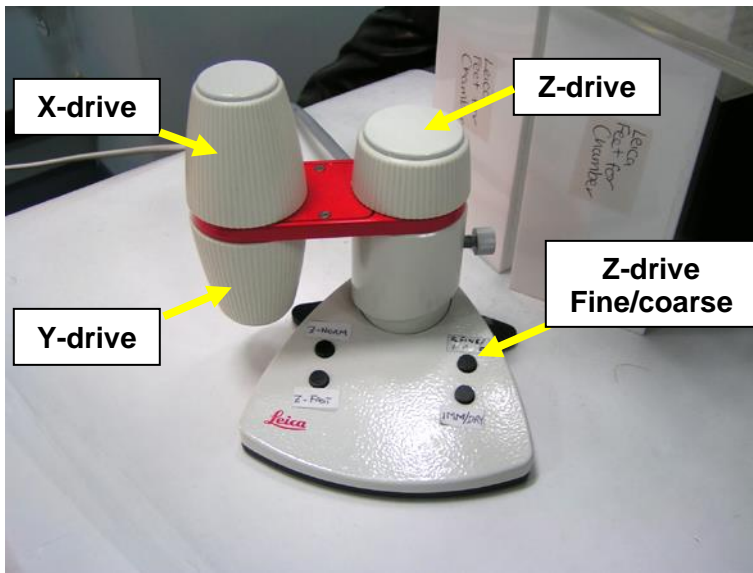
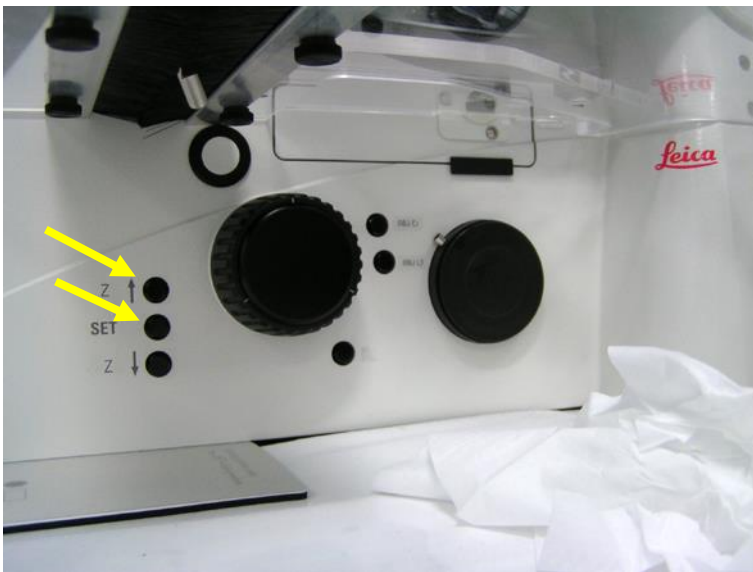

Fig. 8
Fig. 9
2.9. To focus on your sample, you can use the two main knobs on both sides of the microscope stand (see Fig. 6). The focus operates in 'coarse' and 'fine' mode and you can switch between the two modes by pressing the upper button on the right hand side SmartMove remote control (see arrow in Fig. 8). To mark a desired Z-position of the focus, press the two buttons 'Z↑' and 'SET' simultaneously (see Fig. 9). Do not use the 'Z↓' button. If you simultaneously press the buttons the first time, this will delete any previous
2.10. To quickly move the objective turret to the lowest point, e.g. for making sure that the lens is out of the way for stage initialisation or after finishing with your work, press the ‘Z↓’ button (see Fig. 9).
2.11. The SmartMove remote control allows you to conveniently control several functions of the microscope such as the X- and Y-movement of the motorised stage and the Z-drive mode (see Fig. 8).
In Fig. 8, the arrow on the right indicates the selection button for the Z-focus mode ('coarse' or 'fine')